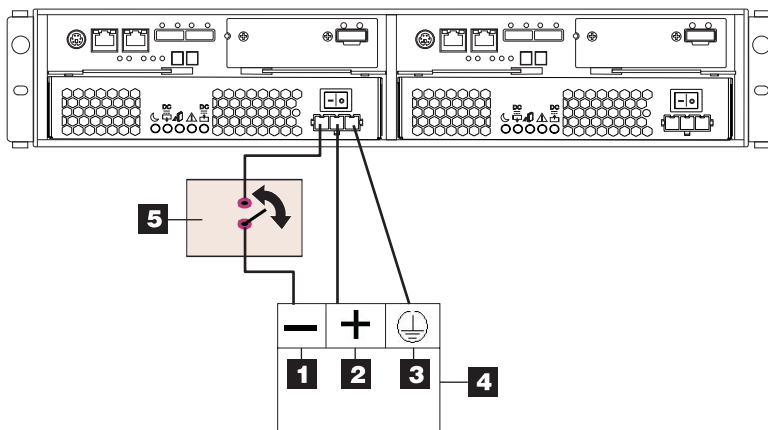

Figure 74. DC wiring from DS3500 to disconnect device and dc power source
- Complete the wiring from the disconnect device to the terminal marked -48V of the Reliably grounded safety extra low voltage (SELV) dc power source. Connect the POS RTN wire (blue) and the ground wire (green/yellow) of the dc power cable to the terminals marked POS RTN and GND on the dc power source, as shown in Figure 74.